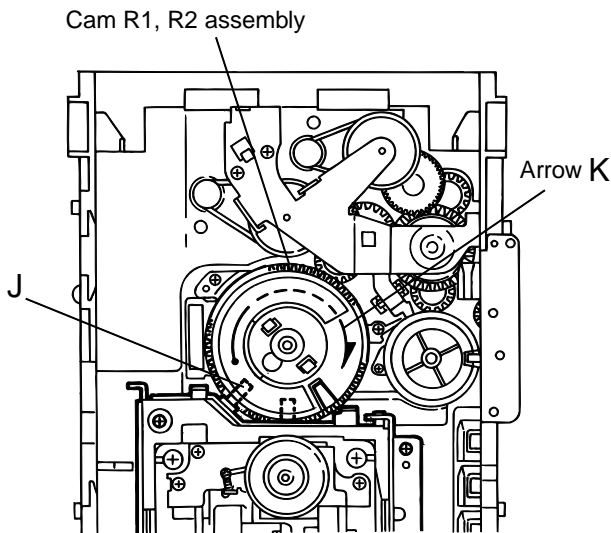

Fig.11
■ Removing the DVD mechanism (See Fig.11, 12)
1. For dismantling only the DVD mechanism without removing the DVD mechanism assembly, align the shaft "J" of the DVD mechanism assembly to the position shown Fig.11 while turning the cam R1 and R2 assembly in the arrow direction "K" .